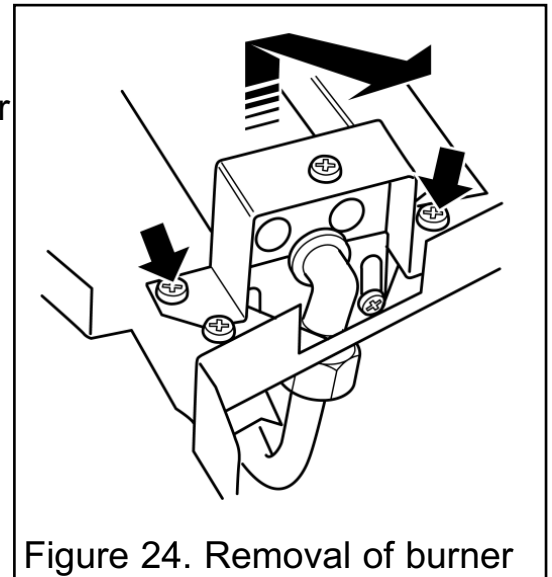

Figure 24. Removal of burner
3. Remove the two screws from the burner clamping plate (See figure 24)